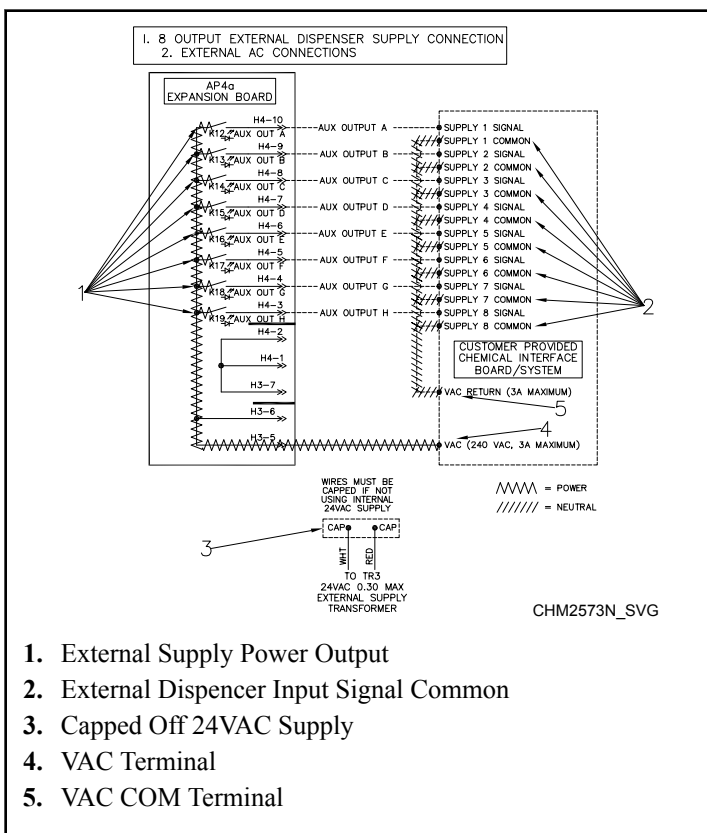
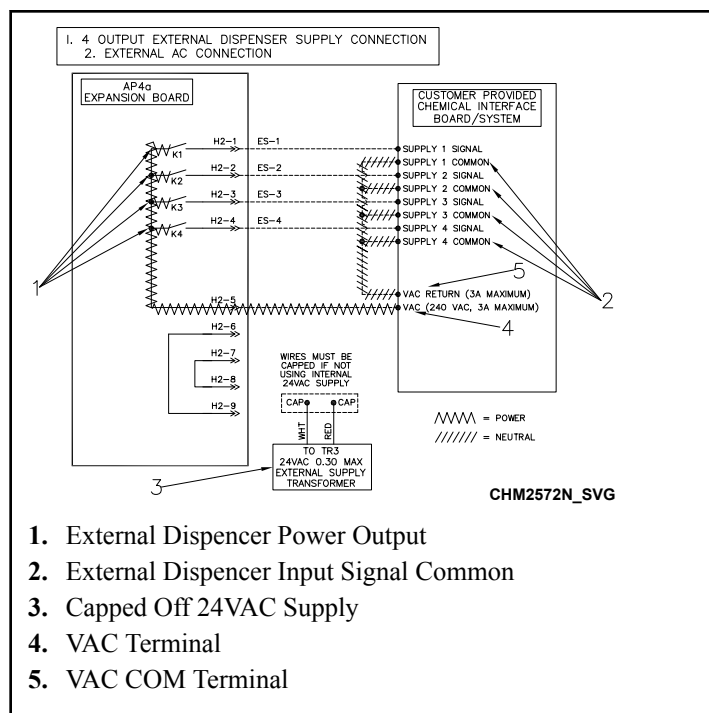

Figure 39
Figure 40
2. Connect one side of the external power to the “RELAY COM” and the other to the external dispenser input signals common. Refer to *Figure 39* and *Figure 40*.